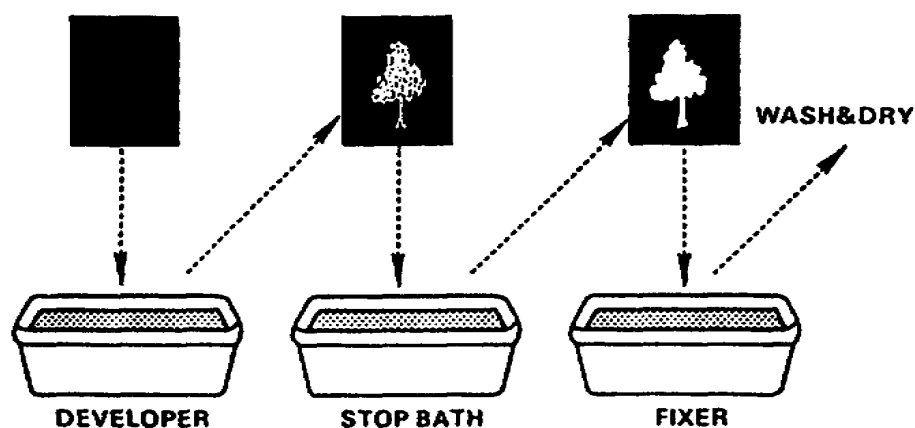

Figure 1-7. Developing process
a. Let's assume that you have determined the type of film you are processing and the method you will use to process it. The steps in the processing sequence (fig 1-7) are as follows:
(1) Presoak. The presoak is an optional but very useful step in the processing sequence. Prior to developing, the film is immersed in water to soften the emulsion, assisting the rapid penetration of the developing agent.
(2) Developing. The exposed film is immersed in a chemical solution (called developer) consisting of a developing agent, buffer, accelerator, and preservative. This starts the chemical action changing the exposed silver halides to a black metallic silver.
(3) Stop bath. This step stops the action of the developing agent, preventing further development. Acetic acid is commonly used. Since the fixer also contains an acid, any carry-over prolongs the life of the fixer.
(4) Fixing. The film is then placed in another chemical, sodium thiosulfate, which renders the unexposed and undeveloped silver halides water soluble.
(5) Washing. A water wash removes all chemicals, water soluble salts and other contaminants from the film.
(6) Wetting agent. A wetting agent consisting of a high quality detergent that replaces the water particles allowing for faster drying and the reduction of water spots during drying.
(7) Drying. The film is dried which results in a "negative". A negative is an image of the subject photographed in which the various tones appear reversed.